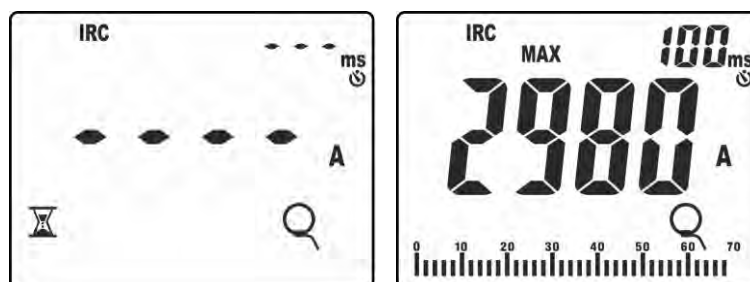

Fig. 41: Recognition of inrush current event
8. Press key **GO/STOP** to activate the function. The instrument waits for the event to be recognized (measured value higher than the fixed trigger threshold equal to **1%FS clamp: e.g. 30A with FS = 3000A**) and shows symbol “X” on the display (see Fig. 41 – left side).
9. Upon recognition of the event, **measurement stops automatically** and the instrument shows, in its main display, the **Max RMS** value calculated according to the evaluation time of **100ms** (default) indicated on the secondary display (see Fig. 41 – right side).